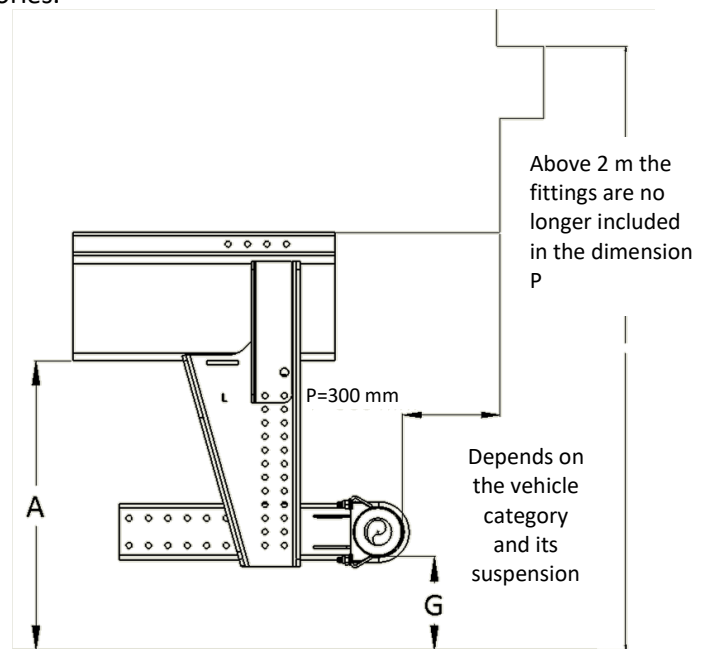

Figure 3
- Hydraulic, hydropneumatic suspension: $G \leq 450 \text{ mm}$ (see figure 3) or departure angle not exceeding 8° with a maximum of 550 mm.
- Other suspensions: $G \leq 500 \text{ mm}$ (see figure 3) or departure angle not exceeding 8° with a maximum of 500 mm.
The position of the underrun bar must ensure compliance with the dimension $G \leq 550$ (see figure 3).
- Adhere to the ground clearances for the profile, **A** max. and **G** (see Figure 3).
- Drill the side rails and plates (see Figures 3, 4a, 4b and 5).
- Position the arm (5) in accordance with the chosen setting (see previous page and figure 3).
- Position the arm on the plate then clamp it using min. 2 x M14 Class 10.9 screws (10), 4 washers (11) and 2 x M14 class 10 nuts (12).
- Check that the dimension between the centre of the tube and the road is compliant (see figure 3).
- Tighten the 2 x Class 10 nuts (12) to the torque specified in table 1.
- Position 2 other min. Class 10.9 M14 screws (10), 4 washers (11) and 2 x M14 class 10 nuts (12).